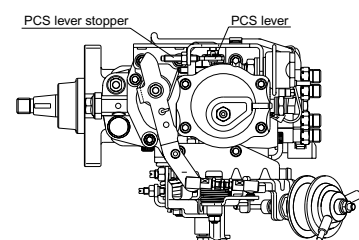

fig. 2
- (1) Set lever at low speed along the test specification.
- (2) Idle position adjustment of A/T throttle lever without ACSD operation. Set the adjusting lever at idle position, and adjust the length of connecting rod to get specified gap (A) between A/T throttle lever and stopper of bracket. (A : 2.0 ± 0.1 mm)
- (3) ACSD adjustment & Idle-up adjustment.
4. Power control lever should be push toward the distributor head, in order to set the system inoperative while adjustment.(fig. 2)